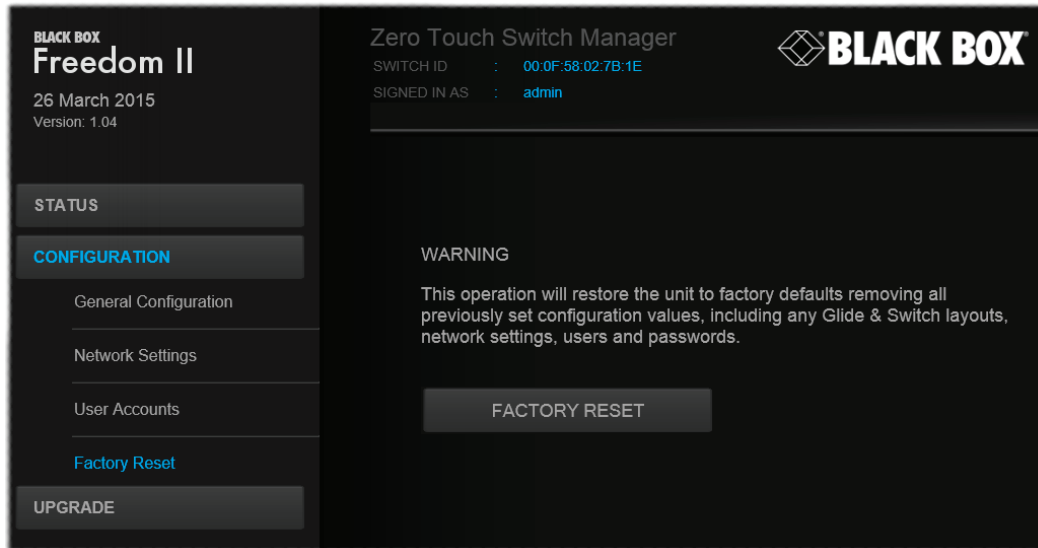

Figure 4-6. The Factory reset page
3. On the left side, click the Factory reset option. See Figure 4-6.